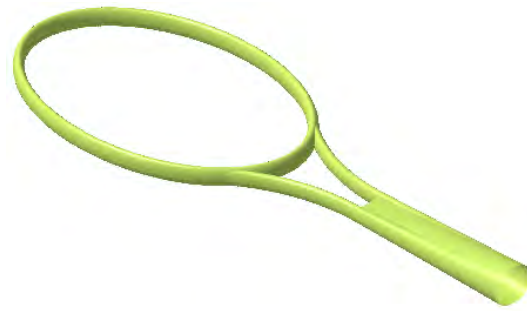

Figure 9-68 The model after creating the multisection surface
18. Choose the **OK** button from the **Multi-sections Surface Definition** dialog box to complete the surface. Figure 9-68 shows the model, after creating the multisection lofted surface and hiding the sketches and the plane.